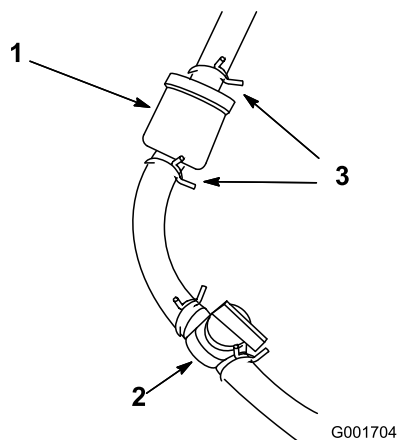

Figure 43
3. Close fuel shut-off valve (Figure 43).
4. Loosen the hose clamp at the fuel filter and slide it away from the fuel filter (Figure 43).
5. Pull the fuel line off fuel filter (Figure 43). Open fuel shut-off valve and allow gasoline to drain into a gas can or drain pan.
6. Install the fuel line onto the fuel filter. Slide the hose clamp close to the fuel filter to secure the fuel line (Figure 43).